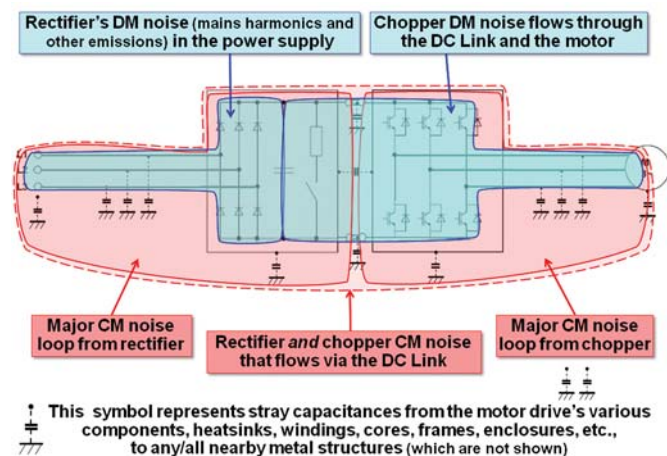

Figure 7.2-2: Example VSD showing noise current loops
Figure 7.2-2 uses the same VSD as 7.2-1, showing the stray capacitances that exist between the units and from them to nearby metalwork. These strays are shown “lumped” for convenience and simplicity of drawing, when in fact they are really distributed all over the length/area of the various parts.
I haven't shown any safety earth/ground connections in these figures, because where such connections are used their earth/ground conductors are so long that they have very high impedance at RF, so they don't have much effect on the major paths of the common-mode (CM) RF noise currents – which flow via displacement currents in the stray capacitances shown in Figure 7.2-2.
Figure 7.2-2 sketches the differential-mode (DM) RF noise currents in blue, and CM RF currents in red.
All currents, including unwanted/stray noise currents flow in closed loops (from Ampere’s Law), and I have sketched the DM and CM noise currents flowing in Figure 7.2-2 with simplistic shapes. The coloured areas within these shapes indicate the electromagnetic near-fields associated with each loop. See Chapters 2.4 of [4] or 2.4 of [5] for more on near-fields and far-fields.
The CM currents in the scheme shown in Figure 7.2-2 flow over loops that extend all the way from the source of the AC power (e.g. the HV transformer) through the VSD to the motor.